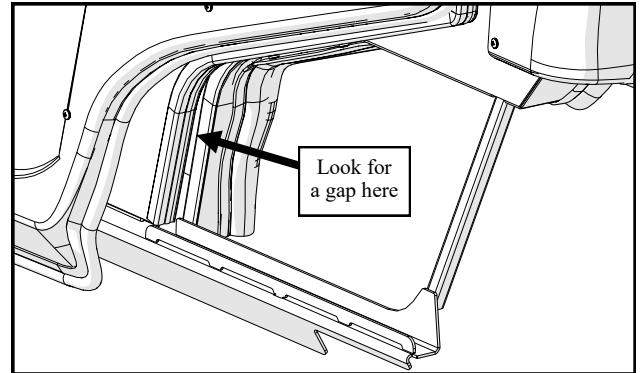
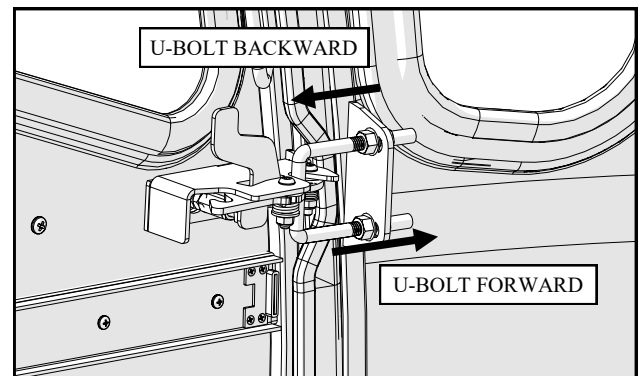

Fig. 3.1a (door contour gap - left side)
Fig. 3.1b (U-Bolt adjustment - left side)
3.1 Per figure 3.1a, check to see if there are any gaps between the door contour rubber and side frame contour tube. If necessary, adjust the U-Bolt forward until the rubber is fully sealed (see fig. 3.1b for the forward direction of the U-Bolt).
(2) 9/16" Wrenches
3.2 If the door does not latch consistently in the closed position, adjust the U-Bolt backwards (see fig. 3.1b for the backward direction of the U-Bolt).